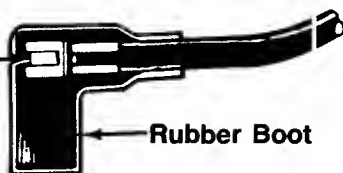

FIGURE 17.
1. Attach spark plug wire to spark plug. If unit is equipped with a rubber boot over the end of the spark plug wire, make certain the metal loop on the end of the spark plug wire (inside the rubber boot) is fastened securely over the metal tip on the spark plug. See figure 17.